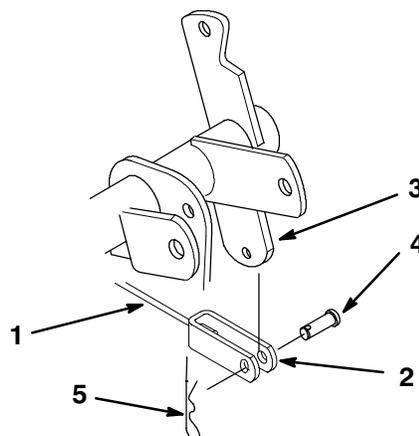

Figure 5
1. Route the clevis end of the lift cable over the left axle casting to the attachment lift plates (Fig. 5).
2. Attach the clevis to the hole in the tractor's attachment lift plate located to the left, underneath the mid section of the tractor with a 5/16 x 15/16 inch clevis pin and a 1-1/2 inch hairpin cotter (Fig. 5).